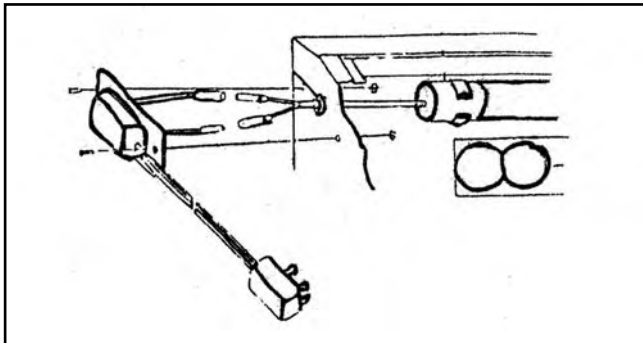

Figure 2. Light assembly.
2. Connect the electrical wires and install the electrical box with the screws (**Figure 2**).